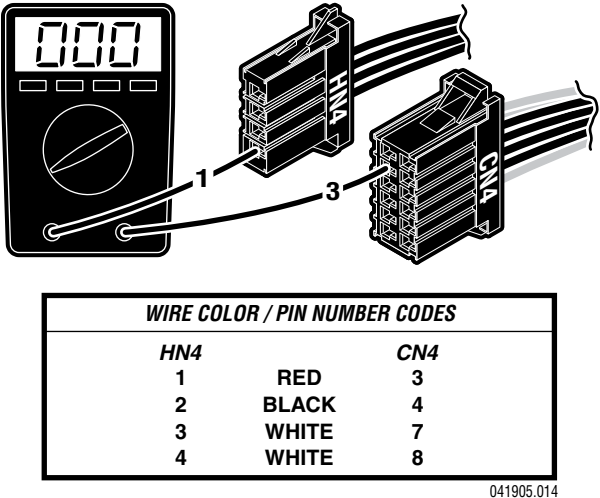

Figure 5-15.
2. Using an ohmmeter, test for continuity between the pins of CN4 and pins on HN4. See figure 5-15.